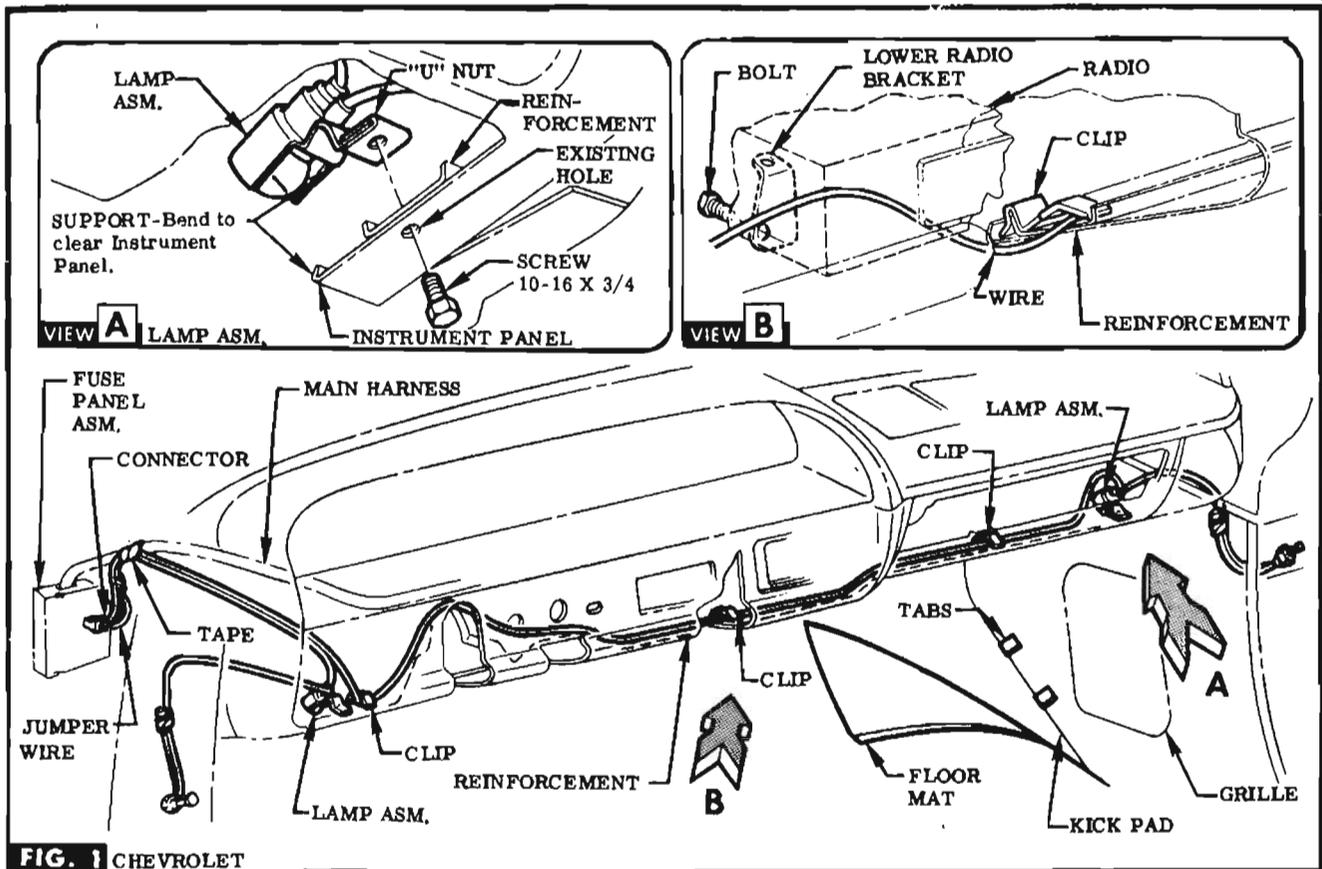

FIG. 1 CHEVROLET
- STEP 1** PLACE L. H. LAMP IN ITS APPROXIMATE INSTALLED POSITION, ROUTE R. H. LAMP OVER STEERING COLUMN TO R. H. SIDE. WHEN RADIO IS PRESENT, REMOVE LOWER MOUNTING BRACKET BOLT & PLACE WIRE BETWEEN BRACKET & INSTRUMENT PANEL, REATTACH BOLT. ATTACH WIRE TO REINFORCEMENT WITH PROVIDED CLIPS & TAPE TO EXISTING HARNESS. SEE FIG. 1 & VIEW B.
- STEP 2** PLACE "U" NUT ON LAMP & ATTACH TO INSTRUMENT PANEL THRU EXISTING HOLE WITH SCREW PROVIDED (EACH SIDE). SEE FIG. 1 & VIEW A.
- STEP 3** REMOVE EXISTING SCREWS ON VENTILATOR GRILLE, ROLL BACK FLOOR MAT & DASH MAT & REMOVE KICK PANEL BY BENDING TABS DOWN. SEE FIG. 1.
- STEP 7** REPLACE KICK PANEL & VENTILATOR SCREWS. BEND TABS UP & REPLACE DASH & FLOOR MATS. SEE FIG. 1. **NOTE** Discard any remaining parts.
- STEP 8** PLUG CONNECTOR INTO RECEPTACLE IN FUSE PANEL MARKED "BATT." SEE FIG. 1. **NOTE** If Receptacle is occupied remove & plug into Jumper Wire